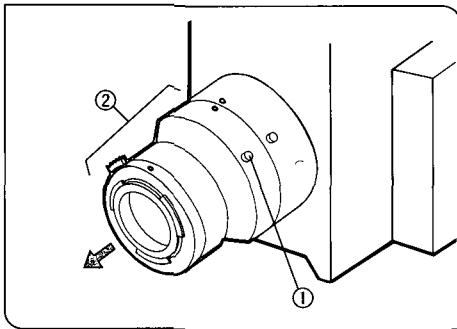

Fig. 113
### 3 Attaching the Video Adapter to the SLR Port (Figs. 113,114)
1. Using the Allen screwdriver, loosen the two clamping screws ① holding the intermediate body of the OM adapter on the SLR port. Remove the front section ② of the adapter. (Fig. 113)